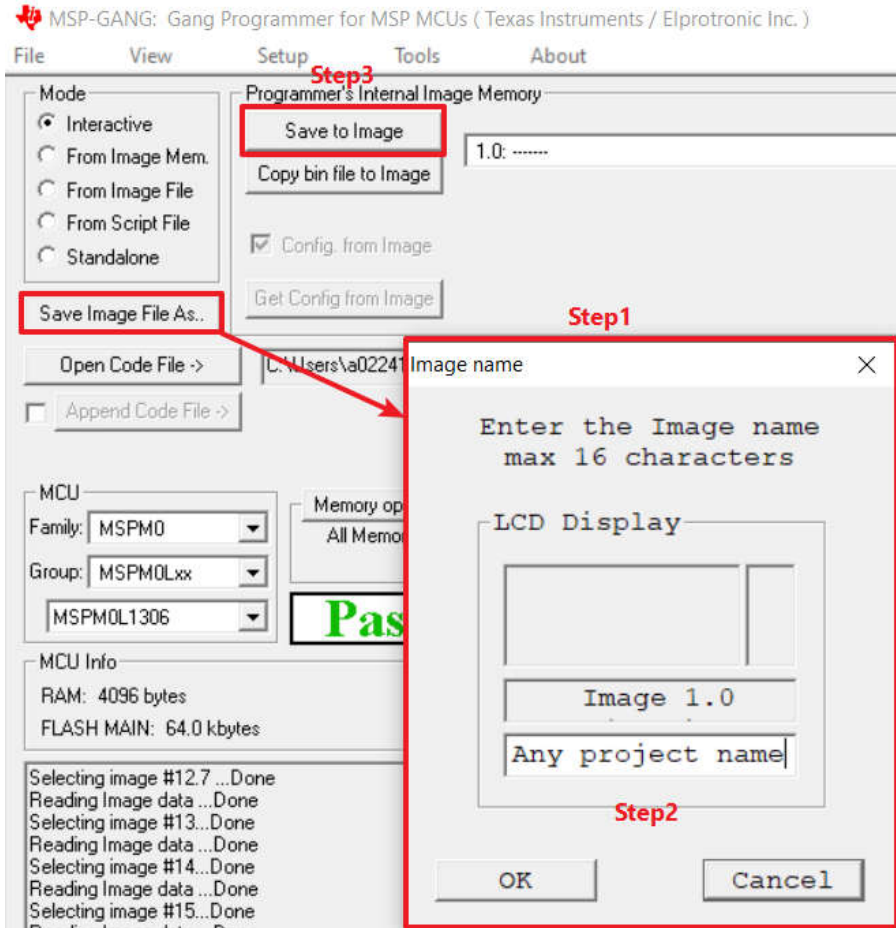

Figure A-21. Generate and Save Image
- Save the code file and settings into MSP-GANG. Assign a project name to this image. Then click *Save to Image* as shown in Figure A-21.